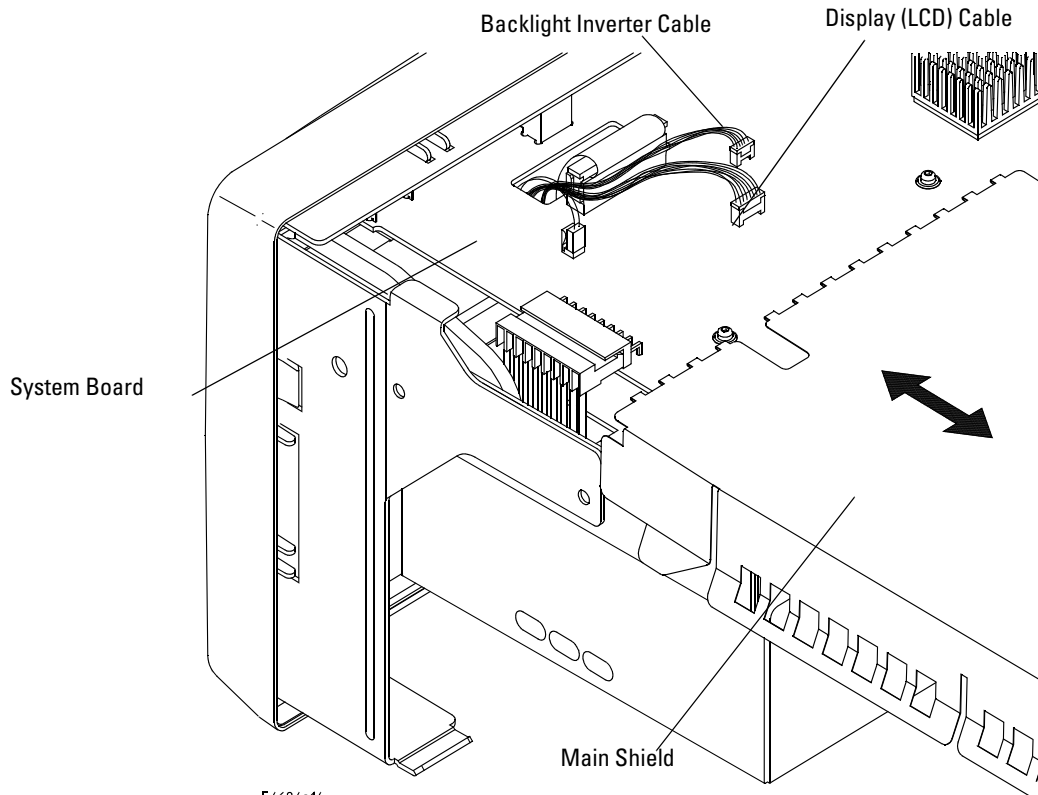

Figure 24 Removing the main shield and disconnecting the display cables
- d** Route the cables down through the deck hole and reconnect to the system board as shown in Figure 24.